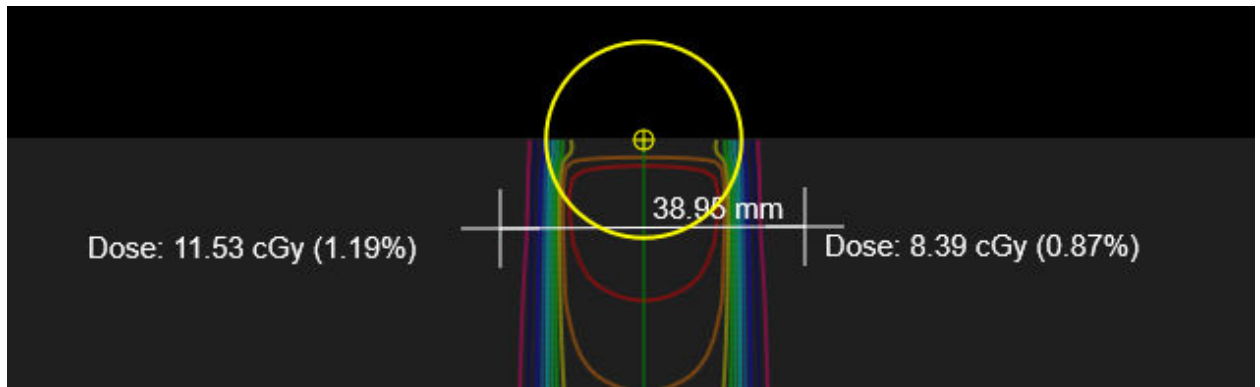

Figure 10.9: Distance Between Crosshairs
6. Use Ctrl + Right Click and Drag to display the measured distance between two crosshairs (see Figure 10-9).